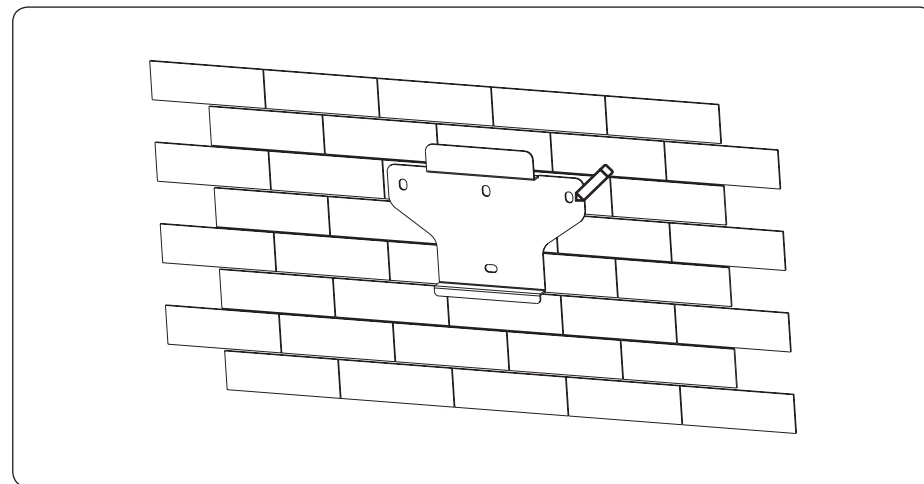

Figure 4-5 Mark the hole position
1) Use the wall bracket as the template to mark the position of 4 holes on the wall. See Figure 4-5 for details: